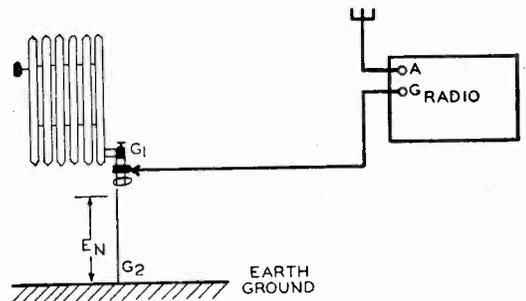

Fig. 8
A.C.-D.C. receivers usually have no provision for a ground connection. A.C. sets, however, may be equipped with a ground terminal which permits connecting to a ground. However, a ground connection is not always helpful in reducing noise. For example, in Fig. 8 a connection to an ordinary radiator in an apartment building is shown. If the owner of the set lives in an apartment which is several floors above the street level, the impedance of the ground system may be appreciable. The reason is that we may have a number of pipes and coupling links between the ground connection at point G1 and an actual earth ground at point G2. As a result, stray noise vol-